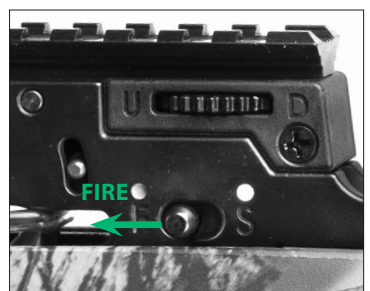

FIGURE 3
7. Slide the safety switch from the ON SAFE position to the FIRE position. (Fig. 3)